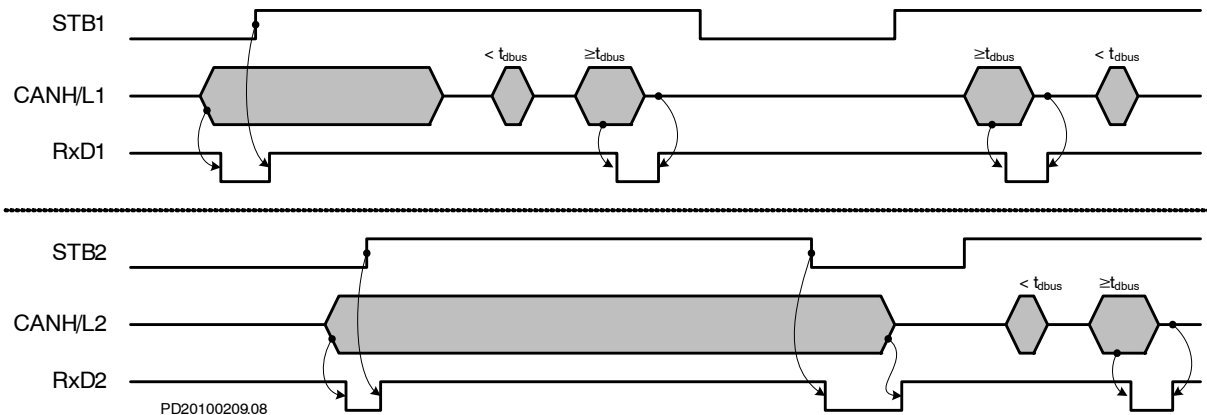

Figure 3. NCV7441 Dual CAN: Bus Activity Detection in Standby Mode
- ◆ Digital output RxD1/2 signals the output of the low-power receiver and can be used as a wakeup signal in the application. A filtering time  $t_{dBUS}$  is applied between the bus activity and the RxD1/2 signal in order to ensure that only sufficiently long dominant signals on the bus will be propagated to the digital output. In addition, dominant bus signals are ignored in case they were present during normal-to-standby mode transition; in this way unwanted wakeups are avoided in case of permanent dominant failure on the bus. Example waveforms illustrating bus activity detection in standby mode are shown in Figure 3.